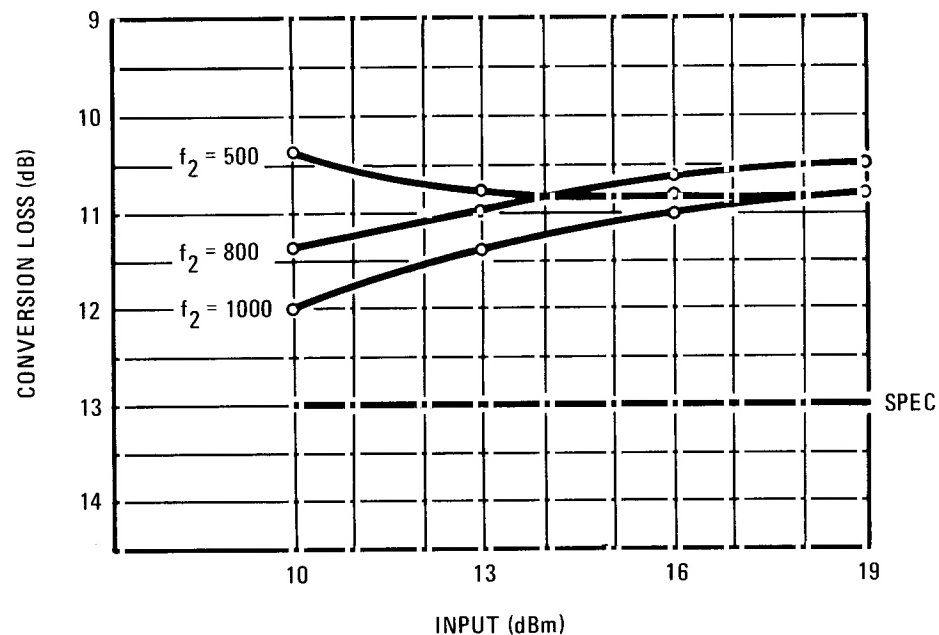

Figure 1. Typical Conversion Loss
9. Since the doubler is passive, it needs an input signal level of +10 to +19 dBm. Figure 1 shows typical conversion loss versus input signal level.